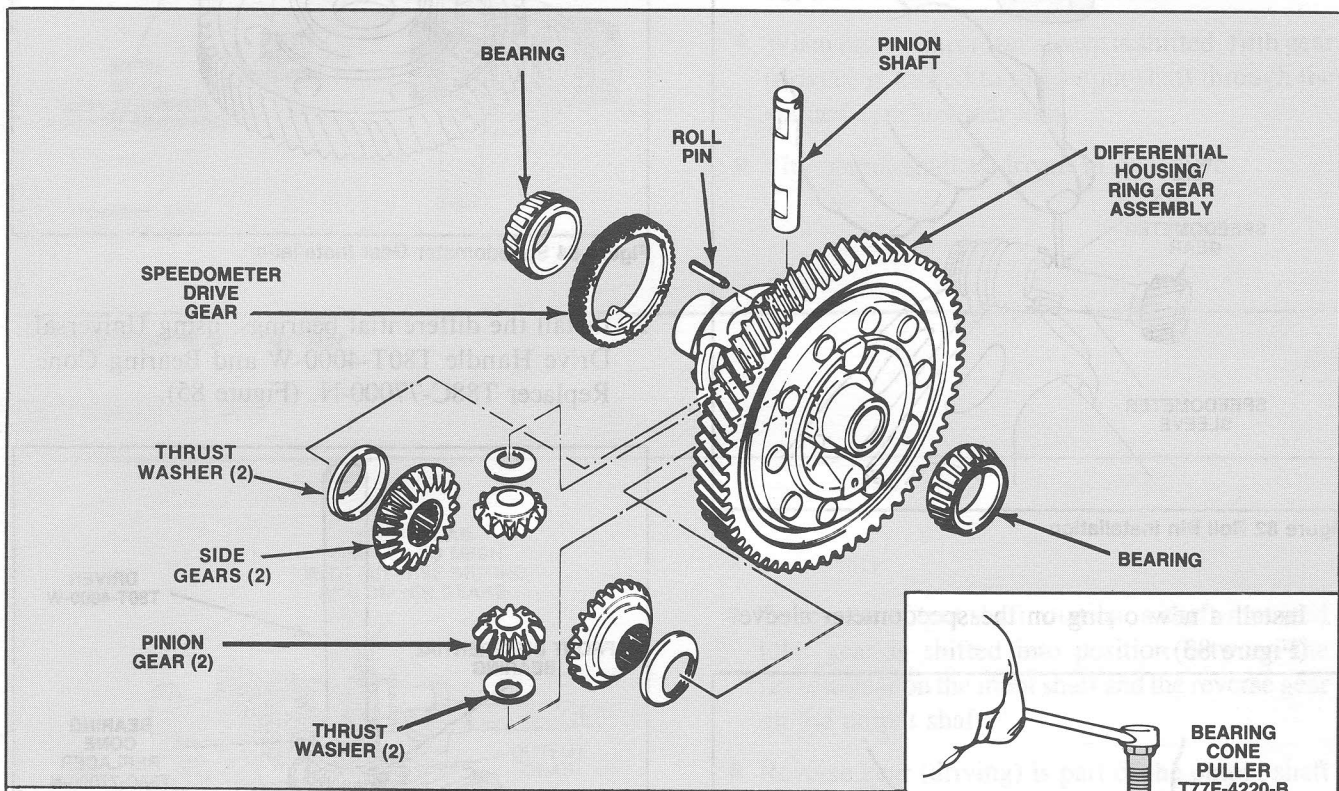

Figure 80 Differential Disassembled View
4. Remove the bearing from the speedometer side of the differential. (Figure 80).